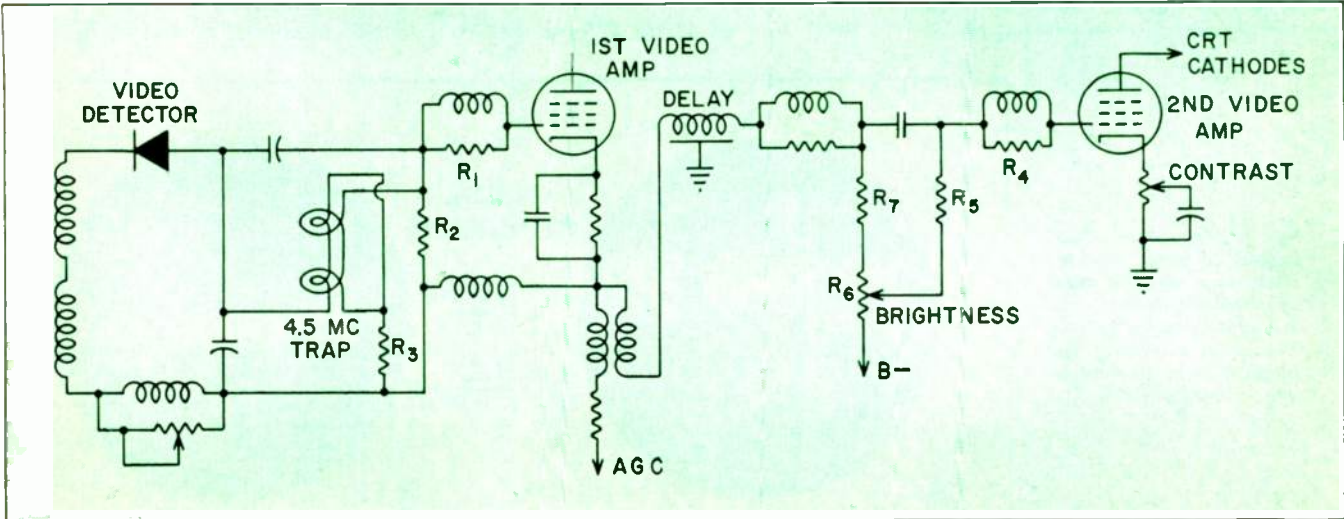

Fig. 5—Color TV uses direct coupling throughout to maintain proper relationship to original signal. Simplified circuit is from RCA color TV.
of the capacitors. This is illustrated in Fig. 5.
Fig. 5 (A)—Schematic of a capacitance voltage divider for measuring p-p high voltage with a scope. (B)—Division ratio of the capacitance divider is inversely proportional to the capacitor values.
Fig. 5 is a simplified version of the new RCA color receiver. A quick glance seems to indicate capacitor-coupling between stages